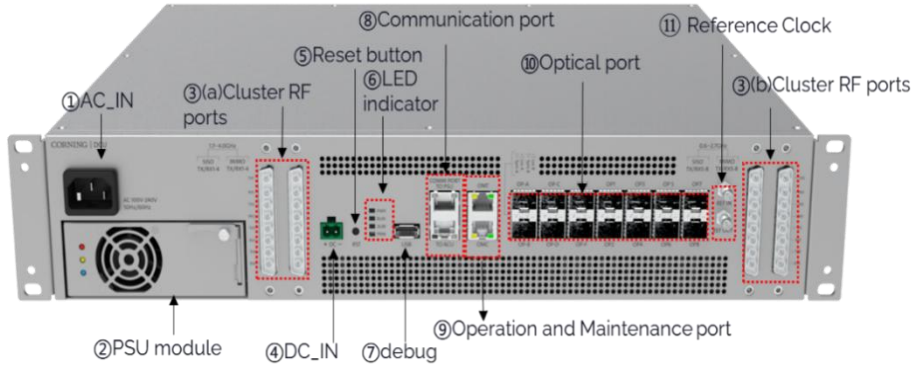
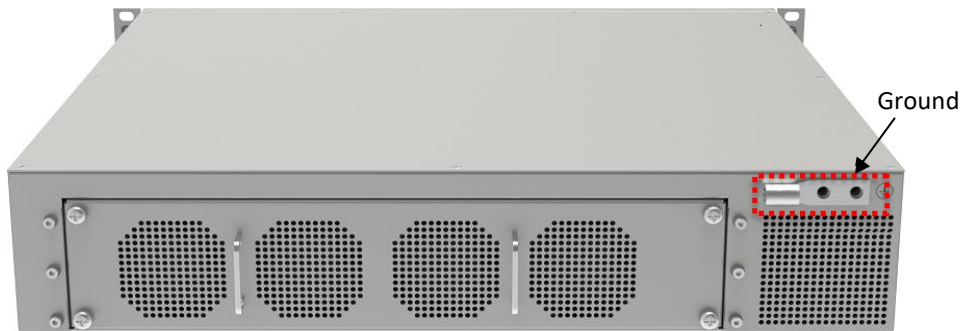

Figure 13. DCU Interface (front view)
Figure 14. DCU Interface (back view)
- Figure 13-Figure 14 show the DCU interfaces.